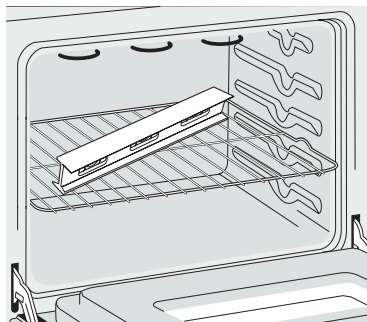

Figure 12
1. Install an oven rack in the center of the oven (see Figure 12).